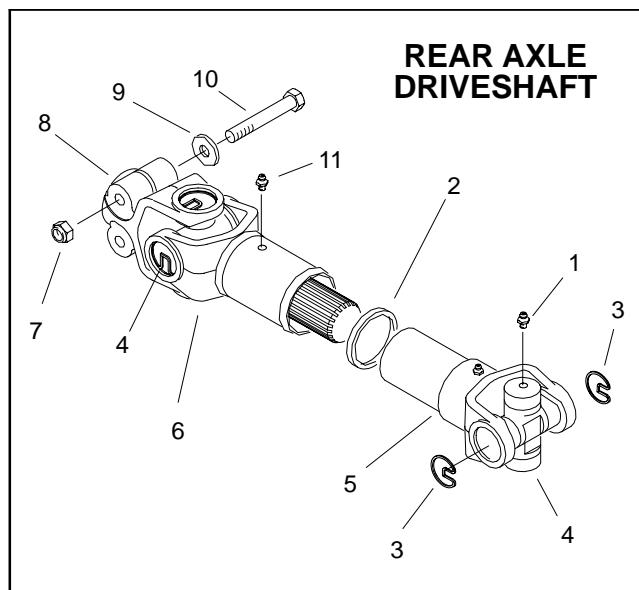

Figure 27
B. For rear axle driveshaft (Fig. 27) removal, see Stub Axle and Driveshaft Removal in this section.